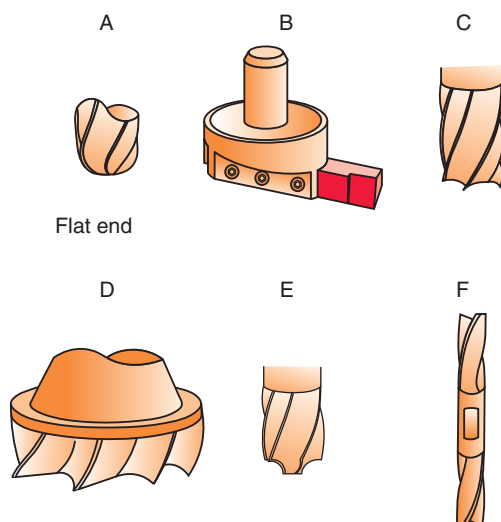

Figure 12-34 Identify the cutters.
3. Identify the cutters shown in Fig. 12-34. For what operation would each be used?